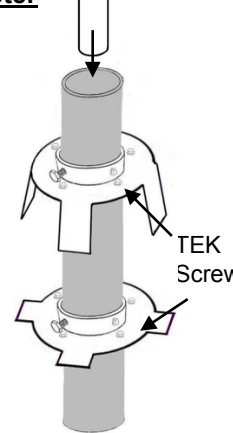

Fig. 3
* Modify adapters to fit into columns. **Top Post Adapter:** bend plate tips downward so column will fit snugly over adapters (**Fig. 3**). Do not over bend tips. **Bottom Post Adapter:** subtract outside diameter of post adapter top (A) from inside diameter of column bottom (B). Divide by two. This will be the distance from the top of post adapter the post plate tips will be cut. Mark and cut with band saw/jigsaw. **Alternate Method:** Measure and cut tips before attaching adapter to post. Dry fit cut adapter into column bottom to determine adapter placement on post (C). **Double check plate tip positions before sleeving column over posts.**
* Column adapters fit inside of steel posts. Align to fit layout (**Fig. 3&4**). Drill pilot hole to secure column adapters to steel posts (either through bolt, tek screw or shear pin). **Double check adapter alignment before fastening. Adapter must be aligned so beams will run correctly.**